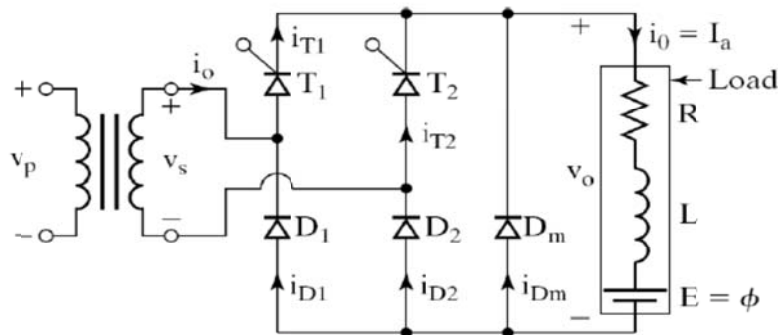

Figure 3
- a) Study the converter configuration shown in figure 3, Identify the configuration and answer the following questions.